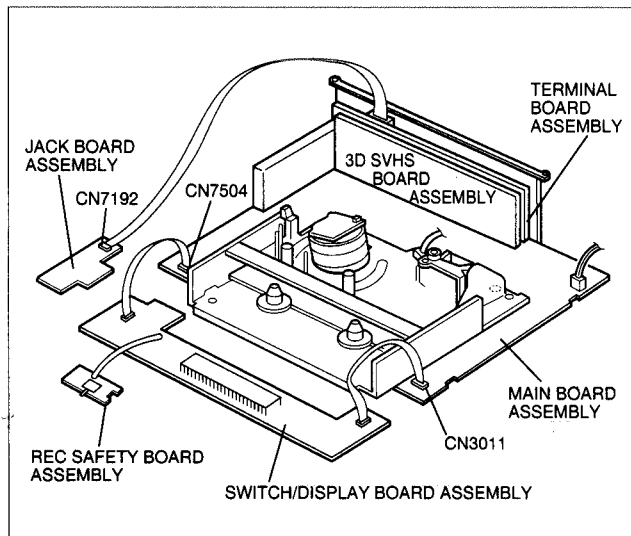

Fig. 1-4-3
- (8) Place the Switch/Display board assembly, REC safety board assembly and Jack board assembly on the front side of the Mechanism and Main board assemblies which was removed at the step (6), then connect the flat wires into CN3011 and CN7504 of the Main board assembly and CN7192 of the Jack board assembly. (Refer to Fig. 1-4-3.)
1.4.3 Cassette loading and ejection methods in the "SERVICE POSITION" (See Fig. 1-4-3).
- (1) Insert a cassette halfway in the Cassette holder assembly.
- (2) Set the switch on the REC safety board assembly to ON (by pressing the switch).
- (3) As soon as the cassette starts to be loaded, set the switch on the REC safety board assembly to OFF (by releasing the switch).
- (4) Now the desired operation (recording, playback, fast forward, rewind, etc.) is possible in this status (the status shown in Fig. 1-4-3).
NOTES: • When performing diagnostics of the tape playback or the recording condition in the "SERVICE POSITION", enter the desired mode before turning the set upside down, and do not change the mode when performing diagnostics while the set is placed upside down. If you want to switch the mode, turn the set to the normal position (the status shown in Fig. 1-4-3).